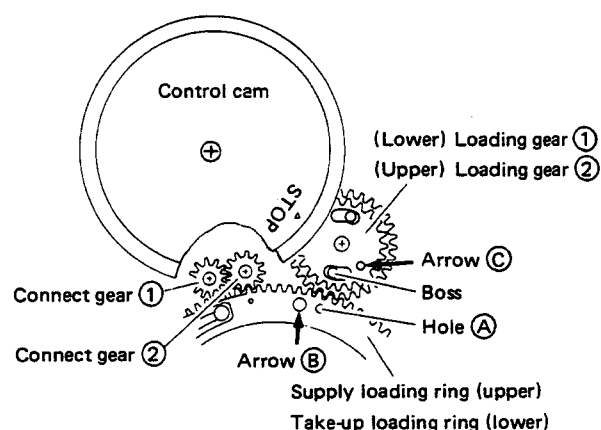

Fig. 2-18 Timing check
1. When the STOP mark of the control cam faces the center of the loading gear, confirm that boss of loading gear ① faces hole (A) of the supply loading ring (Fig. 2-18).
2. At the same time, confirm that the holes of the supply and take-up loading rings overlap the hole of the main deck (arrow (B) in Fig. 2-18).
3. If deviation is confirmed, remove the control cam. Reinstall the loading gears and connect gear ② so as to obtain the correct positions. To reinstall the control cam, turn loading gear ② counterclockwise to where the holes of loading gears ① and ② overlap, then install.